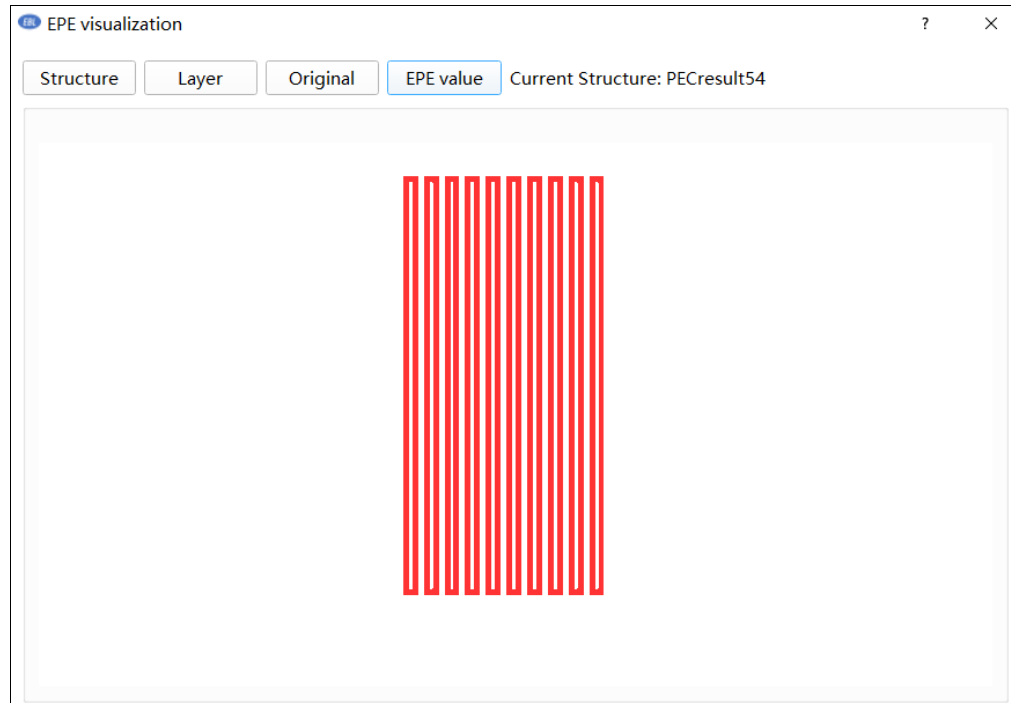

Figure 3.8.5 EPE result of gds file after box selection
- 4) After the calculation is completed, the calculation result of the part you have selected will be displayed (Figure 3.8.5).